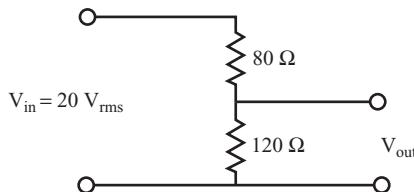

FIGURE 5.7
- 4.** For the circuit shown in Figure 5.7, find the total current flow and the voltage across R_2 , (V_{out})._____